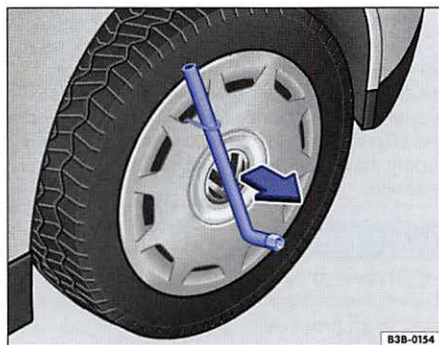

Fig. 158 Pulling the wheel cover off.
- Slide the lug wrench through the clip ⇒ fig. 158 and pull the wheel cover off in the direction of the arrow.